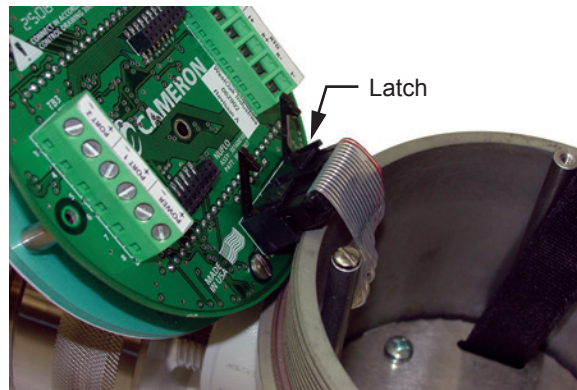

Figure 5.3—Latch securing the ribbon cable
- a. Lift the latch from the black clip securing the ribbon cable (Figure 5.3, page 78).
4. Remove the two #4-40 × 5/16" screws fastening the circuit assembly to the keypad (Figure 5.3, page 78).